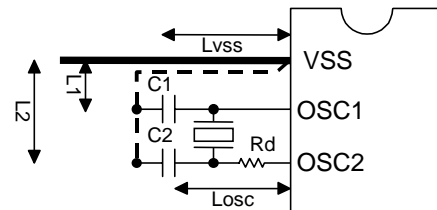

Figure 2-1. Sample Oscillation Circuit 1 (Ceramic resonator)
- When the ceramic resonator option is selected : (Figure 2-1)
- The length of the lines (L_{osc} in Fig.2-1) between the clock I/O pins (input: OSC1, output: OSC2) and the external components should be as short as possible.